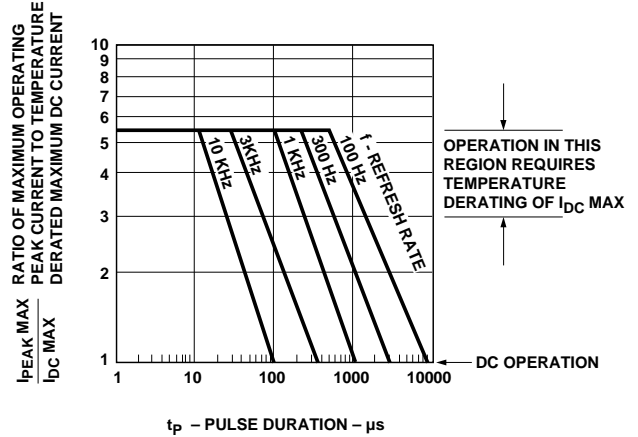

Figure 2. Maximum Tolerable Peak Current vs. Pulse Duration - AlGaAs Red.
2. See Figure 2 to establish pulsed operating conditions. Maximum pulse width is 1.5 ms.